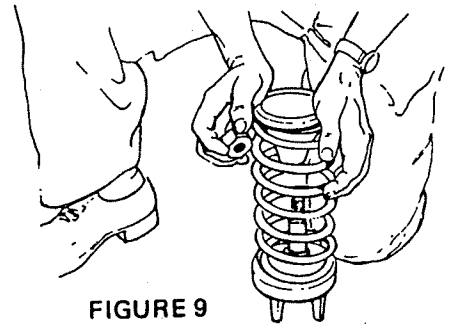
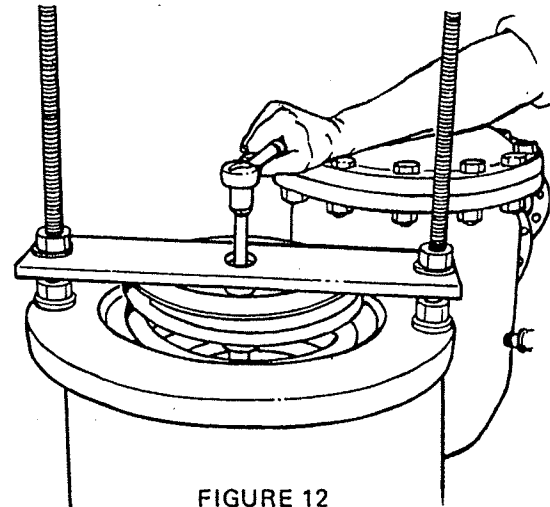

FIGURE 9
FIGURE 12
1. 1-1/2" - 3" (refer to Figs. 9).
- a. Loosen spring retainer nut (1).
- b. Compress spring retainer (2) by hand. Remove spring retainer nut (1).
- c. Release hand and remove retainer (2) and spring (3).
- e. Remove spring retainer nut (Fig. 12).